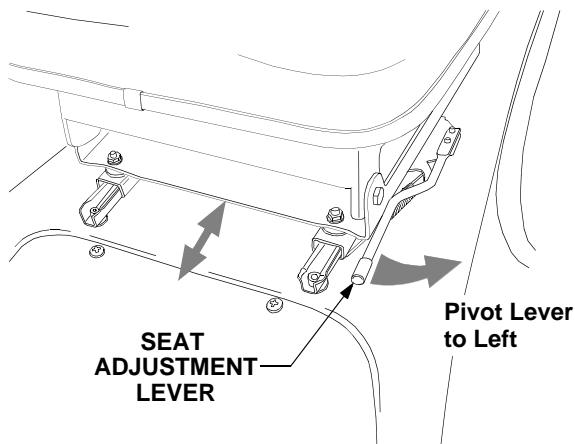

Figure 22
- After repositioning the seat, release the lever to lock the seat in position. Slide the seat either slightly forward or rearward to assure it is locked or until engagement of the lock is felt. See Figure 22.